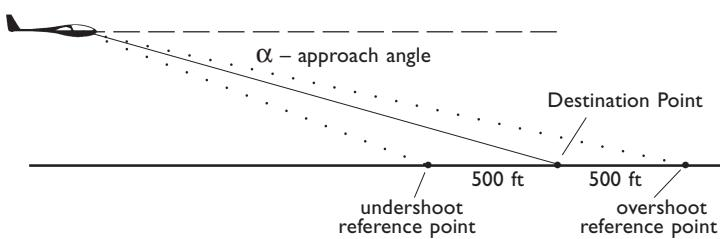

Figure 1 – approach situation
A REVIEW OF VARIOUS GLIDING MANUALS with regard to the reference point (formerly called the "aiming point") and its use reveals that the subject is treated in a simple manner. While on final approach, the reference point is expected to move downwards towards the glider when the flight path is overshooting the point and vice versa. Later manuals (ref. 7,8) discuss variables which can cause the approach to be harder to judge. One variable noted (7,8) is the steepness of the approach angle. A steep approach angle makes it easier to judge the movement of the reference point. Another variable noted (7) is the visual difference between undershooting and overshooting — it's harder to recognize an undershoot than an overshoot condition. Another explanation of this apparent movement is that the angle from the horizon down to the reference point is changing during both these conditions. Figure 1 shows a glider on final approach and the angle alpha (α) from the horizon to the reference point. We will equate the rate of change of α with the apparent movement of the reference point and assume that the more apparent the movement of the reference point, the easier to judge the approach path.
We will begin by assuming that the glider is flying in a no wind condition at a constant approach angle with a constant speed of 50 knots (84.4 feet/second) along the approach path. The destination point is the point where the glider will touch down when it is descending at a constant approach angle with a constant speed and the pilot does not round out. When the reference point and the destination point are the same the glider is on the correct approach path for the reference point. Figure 1 also shows the destination point and two points on the ground labelled the undershoot and overshoot reference points, each set 500 feet from the destination point.
Consider a glider flying a 15° glide angle to the destination point for 60 seconds. The glider will fly a distance of 5046 feet along the approach path similar to Figure 1. The table below gives the angle α down to the overshoot or undershoot point at 10 second intervals when the glider is converging on the destination point.